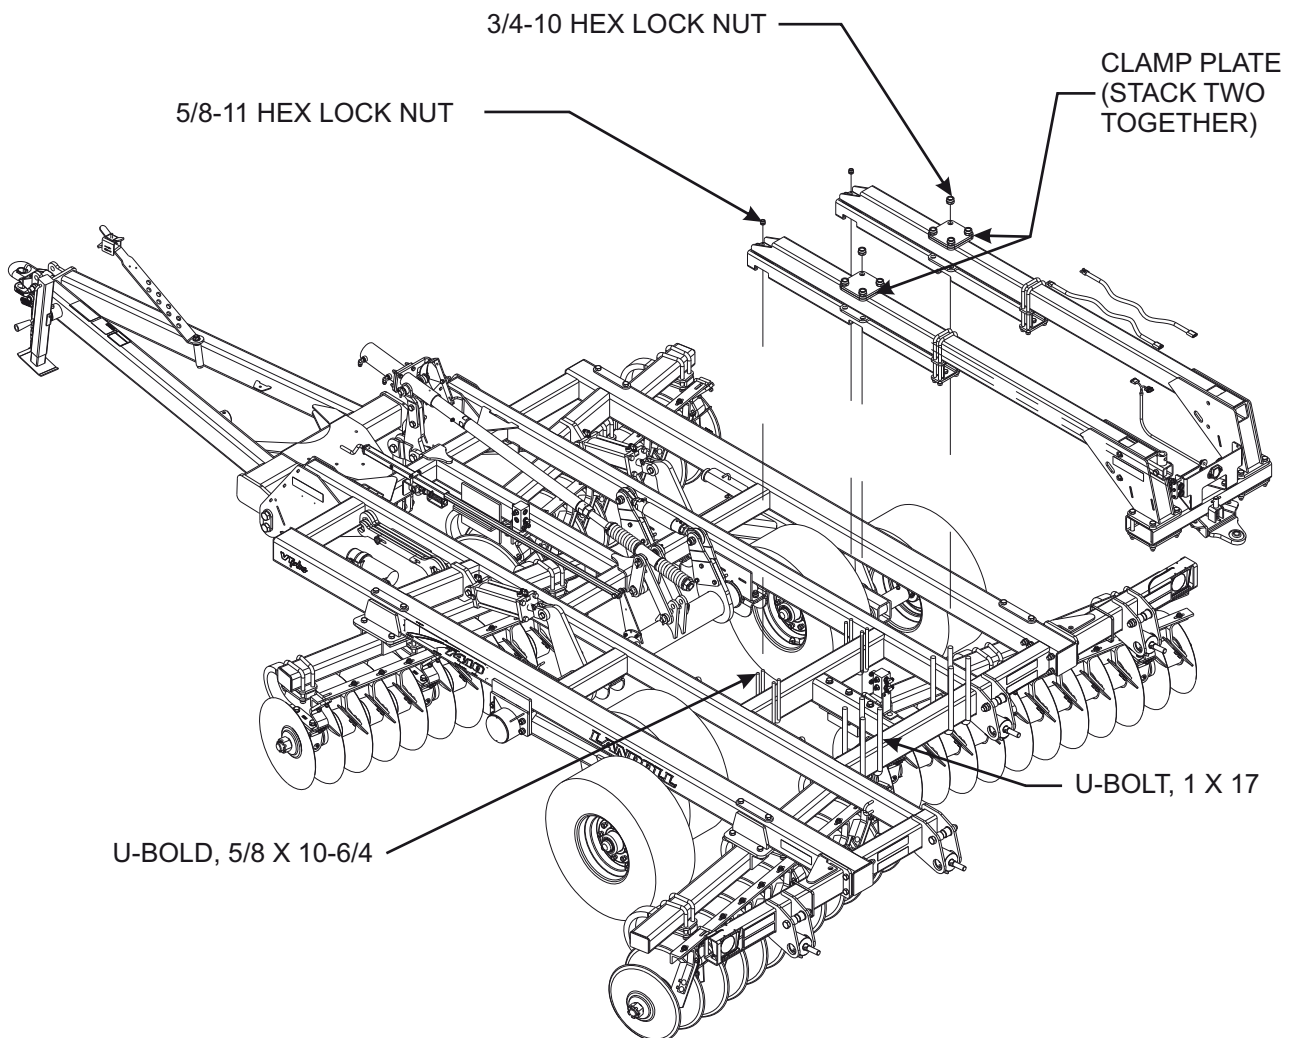

Figure 3-19: Rear Hitch Assembly
1. Attach rear tow assembly to center frame using clamp plates, 5/8 x 10-3/4 u-bolts, 1 x 7 u-bolts and the necessary lock nuts. **See Figure 3-19.** Position the hitch in the center of the frame from side to side, and the hitch brace tube will fit over the center frame tubes setting the front to rear location. Install u-bolts and clamp plates, the 1" u-bolt will have 2 clamp plates per side and lock nuts. Tighten all u-bolts evenly to secure hitch to frame. **NOTE:** 1" u-bolt will have 2 clamp plates per side on the top of the hitch.